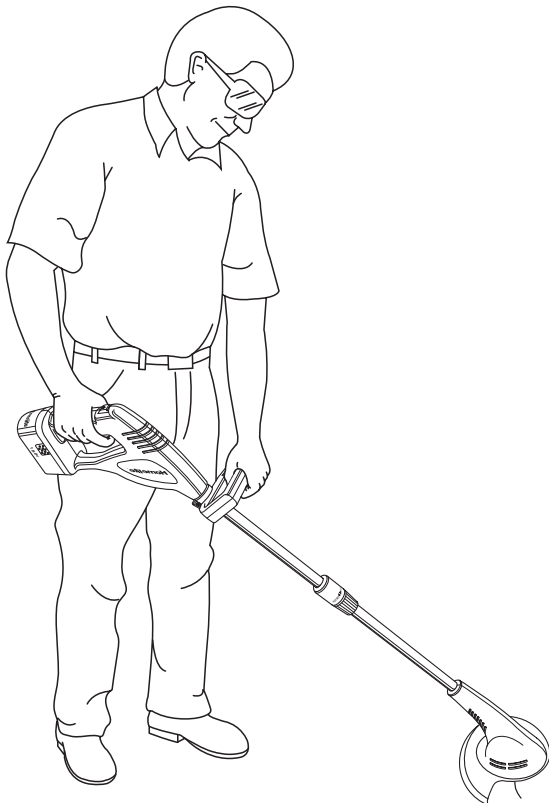

Fig. 9
- Hold the string trimmer as shown. *See Figure 9.* Right arm is slightly bent, the right hand holding the rear handle. Left arm is straight, the left hand holding the front handle. The unit should be slightly below waist level.